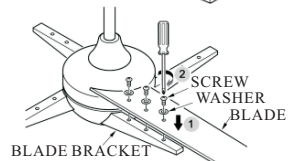

FIG.5
1. Attached each blade assembly onto the blade bracket using the blade screws. Tighten them securely. (See fig.5)